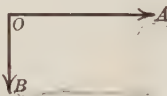

FIGURE 530.
8. In Figure 530,  $OA$  represents the force with which a man rows a boat directly across stream.  $OB$  represents the force of the stream at